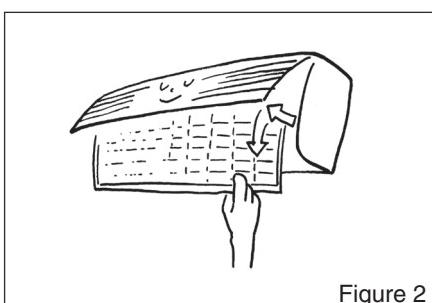

Figure 2
- Gently pull up the air filter screen and take it out in the direction of your body (Figure 2).